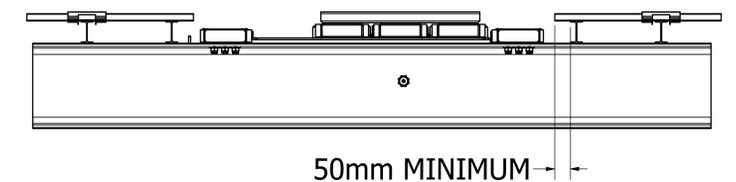
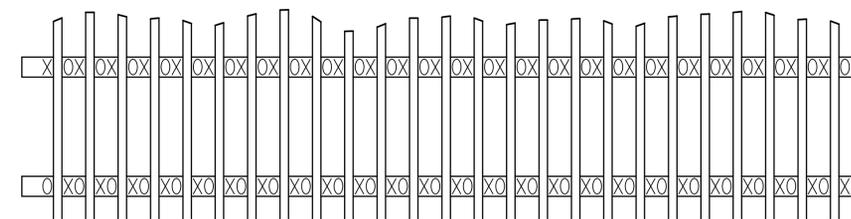

FIGURE 14: SUBDECK OVERHANG
FIGURE 15: SUBDECK WELD PATTERN
1. CUT SUBDECK TO LENGTH ACCORDING TO TRAILER LENGTH, SUBDECK END CONDITION AND DRIVE LOCATION. SUBDECK MUST EXTEND PAST CROSS-MEMBERS BY 50mm FOR BEARINGS TO WORK (FIGURE 14).
2. POSITION AND MOUNT TUBES. BEGIN AT REAR OF TRAILER. PLACE THE TWO OUTSIDE TUBES AND LOCATE THEM PROPERLY WITH THE SPACING JIGS. CENTER THE JIGS SO THE TUBES ARE THE SAME DISTANCE FROM THE WALLS. LAY OUT THE REST OF THE REMAINING TUBES ACROSS THE WIDTH OF THE TRAILER, SPACING THEM WITH JIGS. KEEPING THE JIGS ABOVE THE CROSS-MEMBERS CLAMP THE JIG AND TUBES TO EVERY OTHER CROSS-MEMBER. BE SURE THAT ALL SUBDECK TUBES OVERHANG BY AT LEAST 50mm (FIGURE 14). MAKE SURE TO PLAN FOR THE DRIVE GAP WHILE INSTALLING THE SUBDECK. WELD OR HUCK-BOLT THE SUBDECK TO THE CROSS-MEMBERS BETWEEN THE JIGS. MOVE THE JIGS AND FINISH MAKING CONNECTIONS. CONNECT THE SUBDECK AT EACH INTERSECTION OF A TUBE AND A CROSS-MEMBER. WELDS SHOULD BE 3mm FILLET, 20mm TO 30mm LONG, AND CENTERED ON THE FLANGE. SEE FIGURE 15 FOR SUGGESTED WELD PATTERN.
EXCESSIVE WELDING WILL CAUSE THE SUBDECK TO WARP. USING THE PATTERN IN FIGURE 15 AND STARTING EACH PASS ON THE SAME SIDE OF THE TRAILER SHOULD ALLOW FOR ENOUGH TIME FOR THE SUBDECK TO COOL.